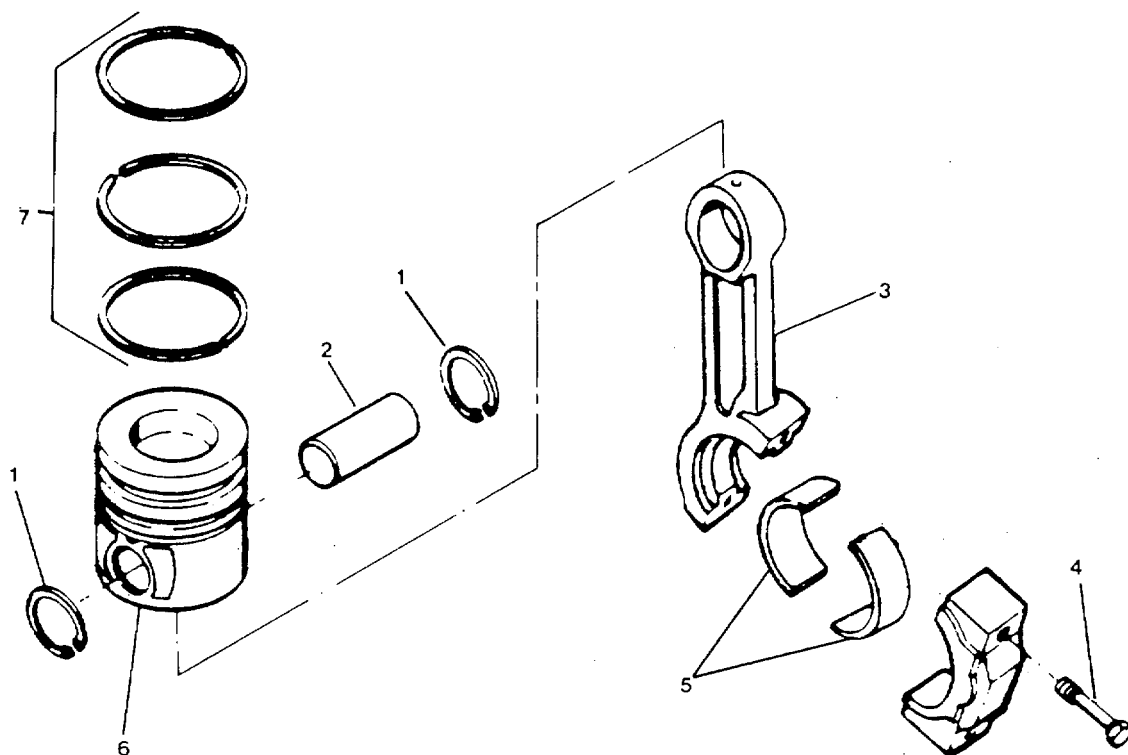

FIGURE 4-33. Piston and Connecting Rod Assembly.
4-10. Repair Connecting Rod and Piston Group. (FIGURES 4-33 through 4-53)
- b. Remove piston pin (2, FIGURE 4-33).
- c. Using snap ring pliers remove the piston rings (7).
- d. Measure pin bore in each piston as shown in FIGURE 4-33.
- (1) Measure and record the crankshaft bore with the bearings (5, Figure 4-33) installed and the capscrews (4) tightened to 73 ft-lbs (99 N-m).